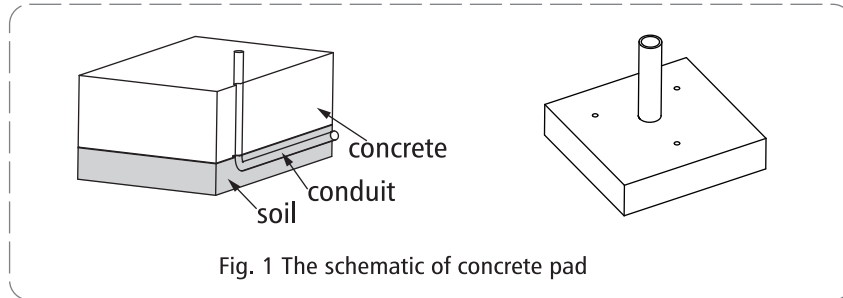
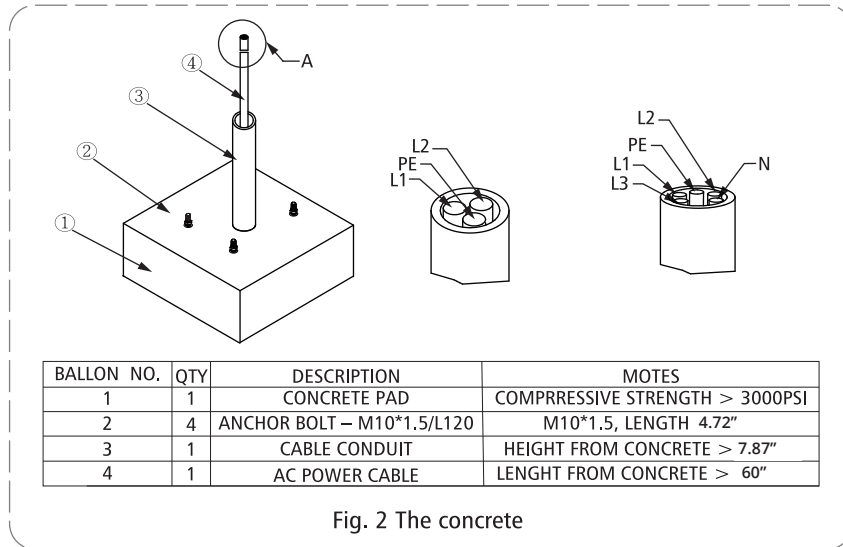

Fig. 1 The schematic of concrete pad
Fig. 2 The concrete
- First, need build the concrete pad for pedestal, the compressive strength must be over 3000psi, reference picture is shown as Fig. 1 & Fig. 2, and the concrete pad dimensions(Space: W15.75" x L15.75" x H20") is shown as Fig. 3.